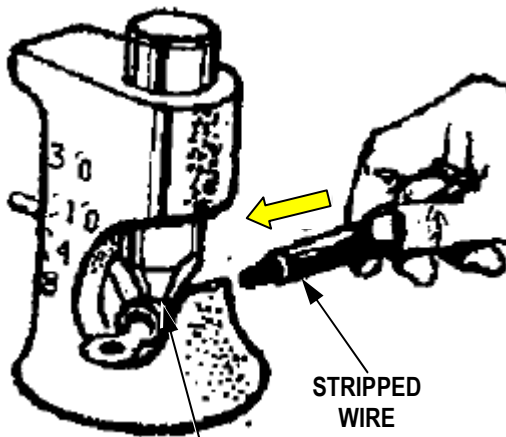

Figure 2
7. Insert the proper stripped wire into the barrel of the terminal. See Figure 2.